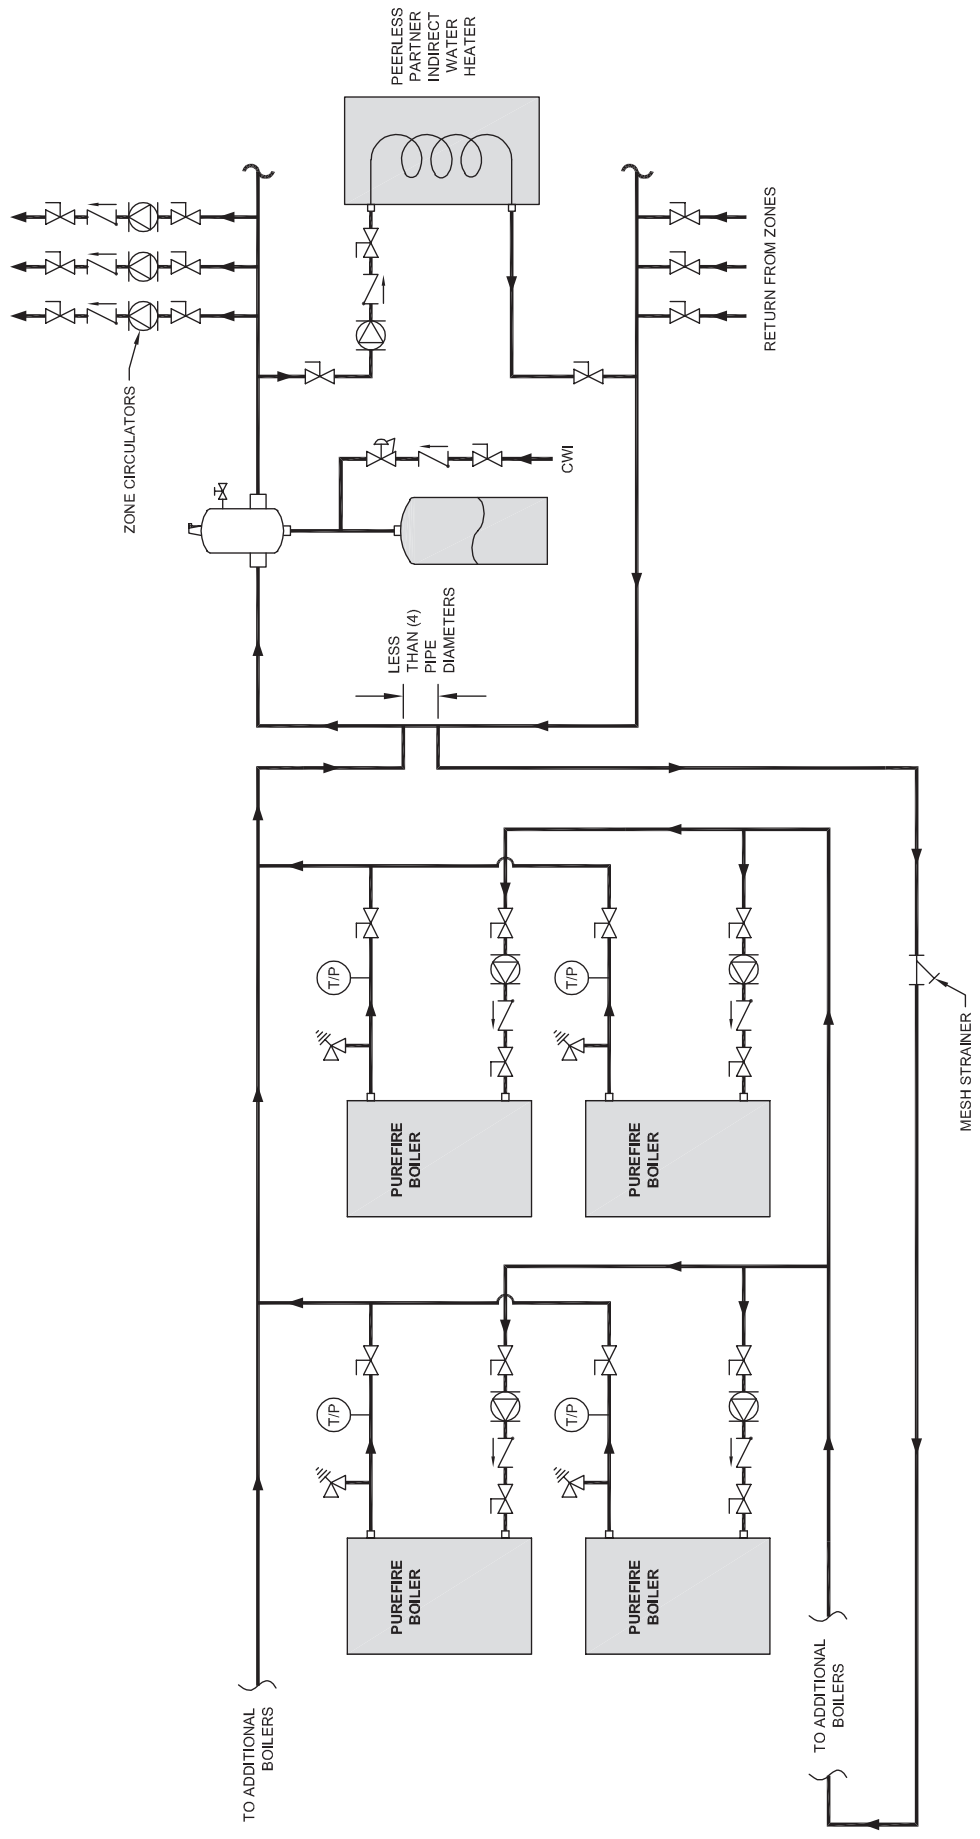

Figure 4.5: Recommended Piping – Multiple Boilers with Multiple CH Zones & One DHW Tank
2. The configuration illustrated in Figure 4.5 is for multiple boilers. This figure shows an indirect DHW tank in parallel with the heating zones. Notice that the return to the boilers from the closely spaced tees in the primary secondary arrangement is reverse return to provide similar lengths of piping through each boiler. This configuration shows the boilers in groups of two to take advantage of the Series PFC™ PFC-625 or PFC-750 stacking capability.